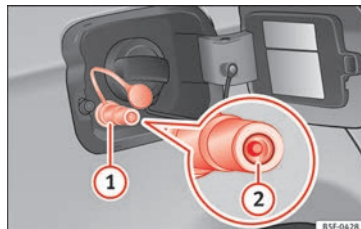

Fig. 239 Tank flap open: gas filler mouth (1), filler mouth retainer (2)
- Remove the plug from the gas filler mouth » **Fig. 239 ①**.